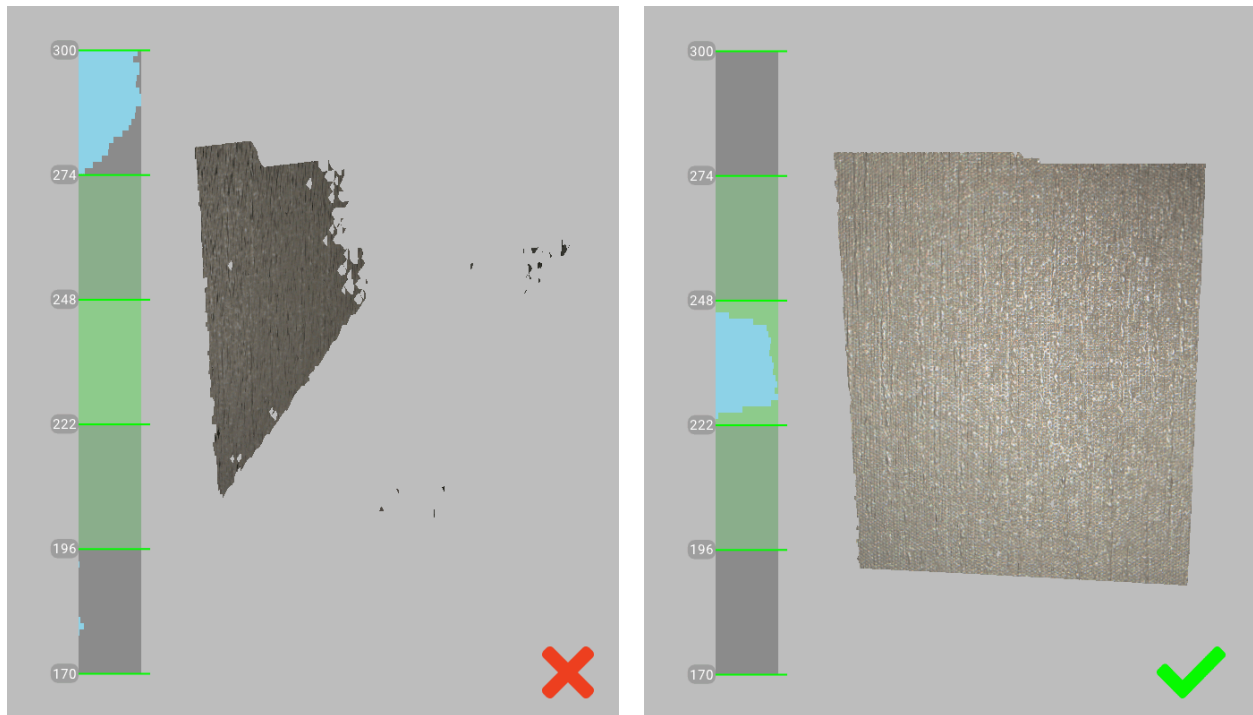

Figure 48: Scanner orientation and reconstructed surfaces.
- Maintain the scanner orientation in such a way that the field of view is sufficiently filled with surfaces (see Figure 48)